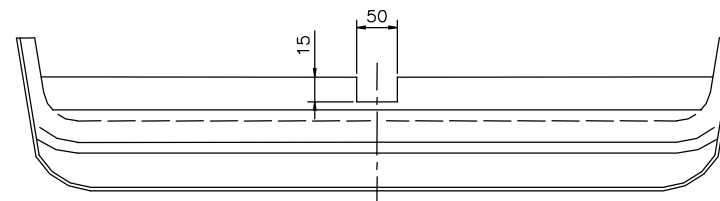

Fig. 2 Bumper cut out
2. In bottom part of the bumper cut out fragment according to figure 2.
3. On protruding pins in rear wall of car body put left handle (pos. 7) on the left side and right handle (pos. 6) on the right side and fix using original nuts M8 from metal reinforcement disassembly and per one bolt M10x35mm (pos. 13) from accessories (fix loosely).
4. With in this way prepared elements fix side brackets (pos. 4 and 5) and main bar of the towing hitch pos. 1 using bolts M12x40mm (pos. 12) – see drawing.
6. Inside the trunk put fish-plates (pos. 8 and 9) in this way, so holes of the fish-plates agree with holes drilled before and fix loosely using bolts M10x35mm (pos. 13).
7. Through holes pos. B of fish-plates drill straight through holes  $\phi 11$ mm and next fix with rectangular washer (pos. 10) by bolts M10x35mm (pos. 13).
9. Fix tow-ball (pos. 2) and socket plate (pos. 3) by bolts M12x75mm (pos. 11) from accessories.